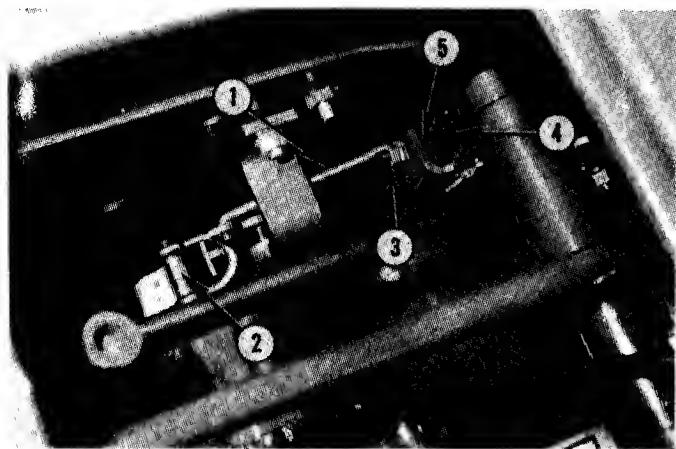

**FIG. 3.16--1600 CLUTCH/BRAKE PEDAL RELEASED**
3. With clutch-brake pedal, No. 1, Fig. 3.16, in up position, increase clearance between bolt head, No. 5, Fig. 3.17, and brake arm, No. 4. Repeat Step 1 and readjust if necessary. Tighten jam nut, No. 3.